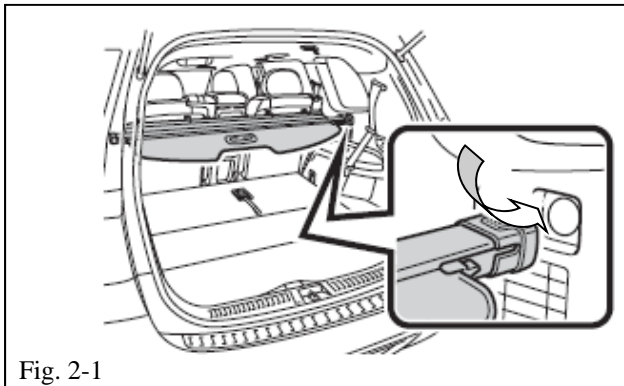

Fig. 2-1
- (a) Locate the cargo cover mounting points on the passenger side of the cargo compartment (Fig. 2-1).